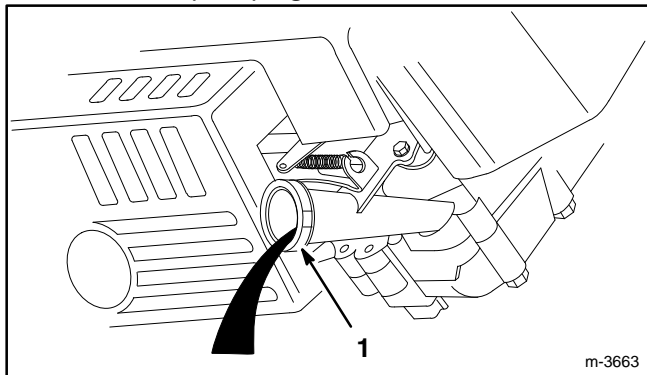

Figure 22
6. Tip mower on its left side, allowing oil to drain into drain pan (Fig. 22).